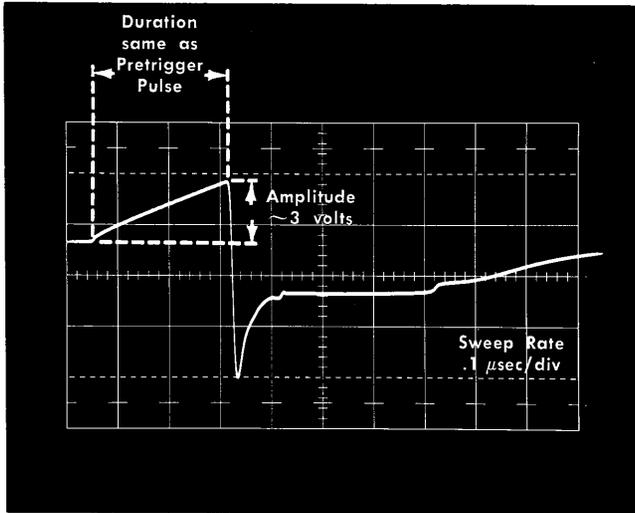

Fig. 5-5. Ramp waveform at emitter of Q60 with VARIABLE control set to MAX.
- e. Check for a ramp waveform similar to Fig. 5-5, with a ramp duration equal to the Pretrigger Pulse duration and an amplitude of approximately 3 volts. If the ramp amplitude is not correct, Q60 may require replacement.